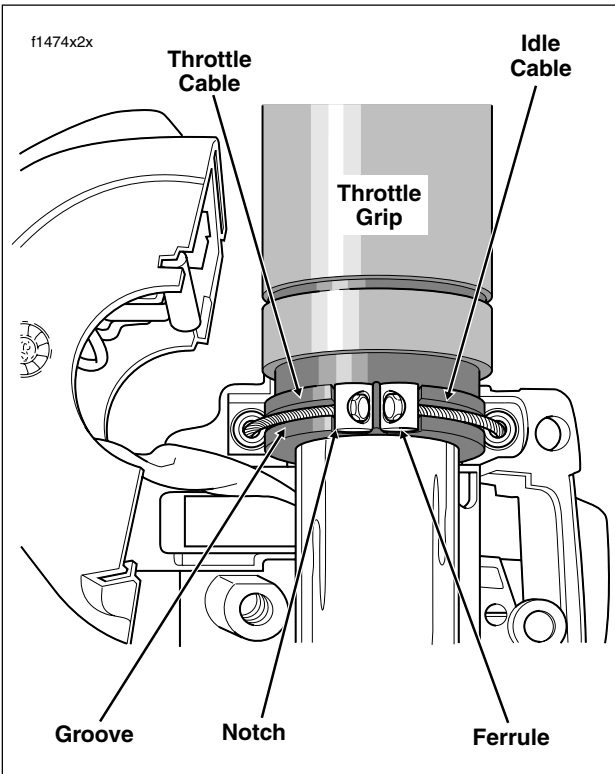

Figure 8-86. Install Throttle/Idle Control Cables on Throttle Control Grip
5. Position the lower switch housing beneath the throttle control grip. Install the brass ferrules onto the cables so that the end fittings seat in the ferrule recess. Seat the ferrules in their respective notches on the throttle control grip. Verify that the cables are captured in the grooves molded into the grip. See Figure 8-86.